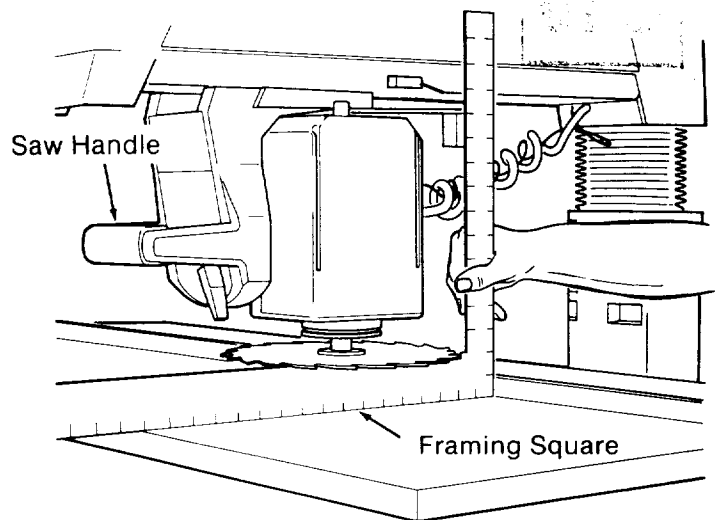

Fig. 85
5. Place the corner of the framing square against the *fence* so that the long edge is on the *table* under the *blade* and the short edge is sticking up in the air. Make sure that the long edge is perpendicular to the *fence*. (Figure 85)